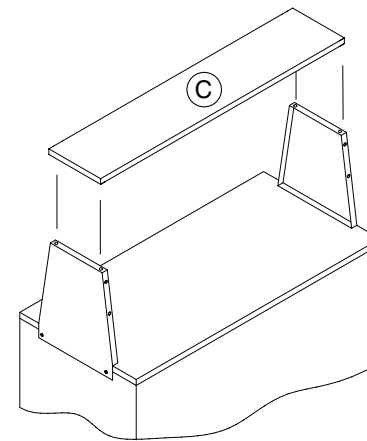

Figure 3
STEP 3: Place the stainless steel top (C) down on to the supports and secure the top to the sides using the Dome Cap Screws (G). **Figure 3.**